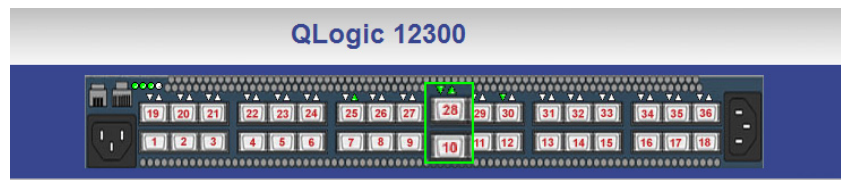

Figure 1-50. 8X Ports Enabled
5. After reinserting the cables, bring up Chassis Viewer by entering the active IP address into your browser address box. The 8X ports are displayed as shown in Figure 1-50 where both ports of the DUO have LEDs on (that is, they are green).